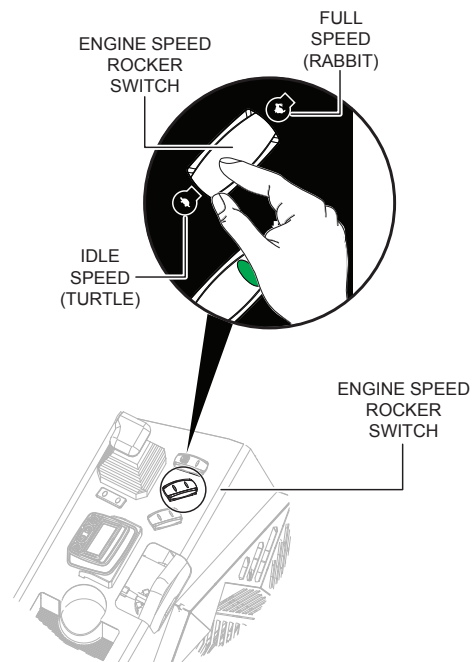

Figure 20. Throttle Switch
1. Each press of the engine speed rocker switch (Figure 20) steps it from idle to operating speed if operator presence is detected.